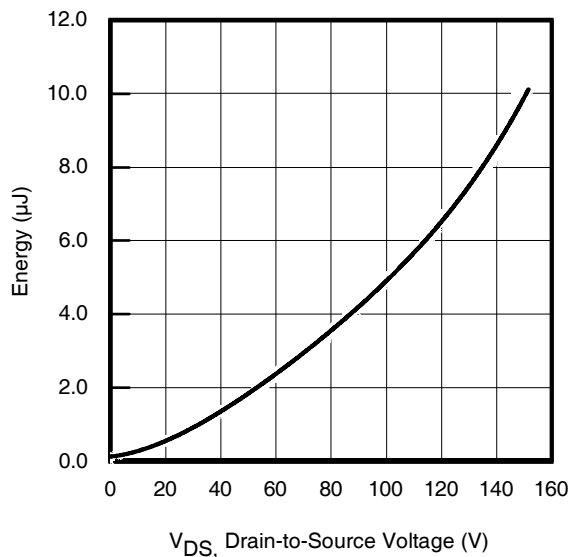

Fig 11. Typical C_{OSS} Stored Energy
| C _{oss} eff. (ER) | Effective Output Capacitance (Energy Related) ^⑥ | — | 897 | — | | V _{GS} = 0V, V _{DS} = 0V to 120V ^⑥ (See Fig.11) |